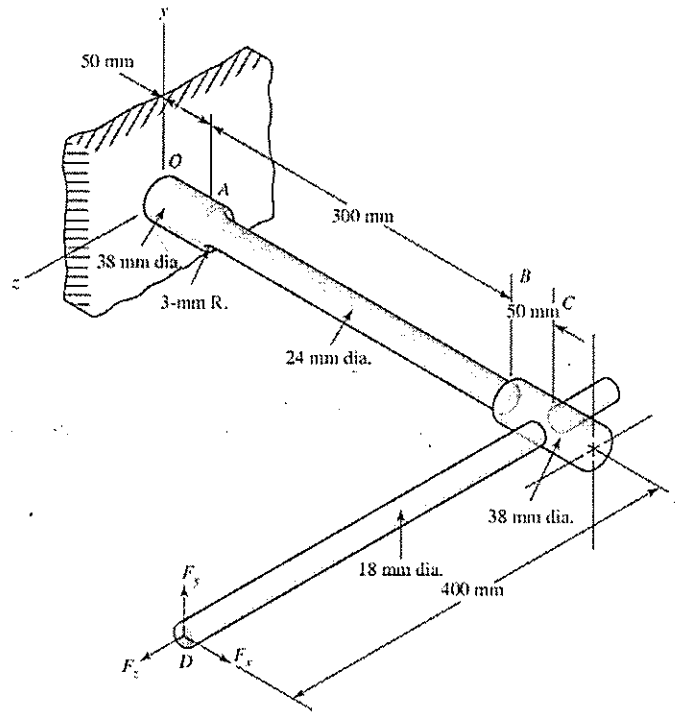

Figure 1
- The cantilevered bar in Figure 1 is made from AISI 1018 CD steel ($S_{ut} = 440 \text{ Mpa}$, $S_y = 370 \text{ Mpa}$) and is loaded with $F_x = 1.2 \text{ kN}$, $F_y = 1 \text{ kN}$, and $F_z = -0.4 \text{ kN}$. The force F is applied as a repeated load. Determine the minimum factor of safety for fatigue in the small diameter at the shoulder at A, based on infinite life, using the modified Goodman criterion. Also find the factor of safety for yielding. Axial load can be negligible. $k_c = k_d = k_e = k_f = 1$. (25%)